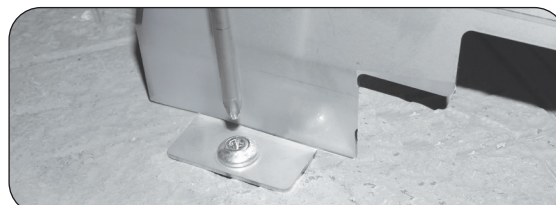

Fig. 20-5 Fasten hammer screws
3. Use a power drill to complete the fastening of the screws (Fig. 20-5).